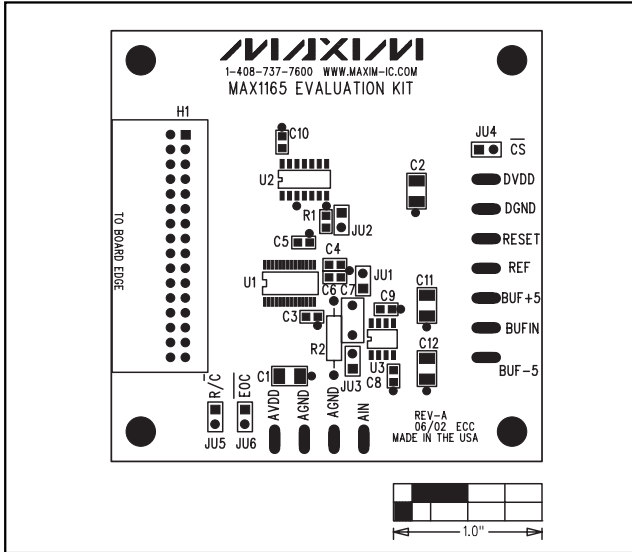

Figure 2. MAX1165 EV Kit Component Placement Guide—Component Side
- 4) Configure the pattern generator to produce the appropriate read/convert ( $R/\overline{C}$ ) and conversion start ( $\overline{CS}$ ) waveforms. Refer to Figure 2 in the MAX1165 data sheet.